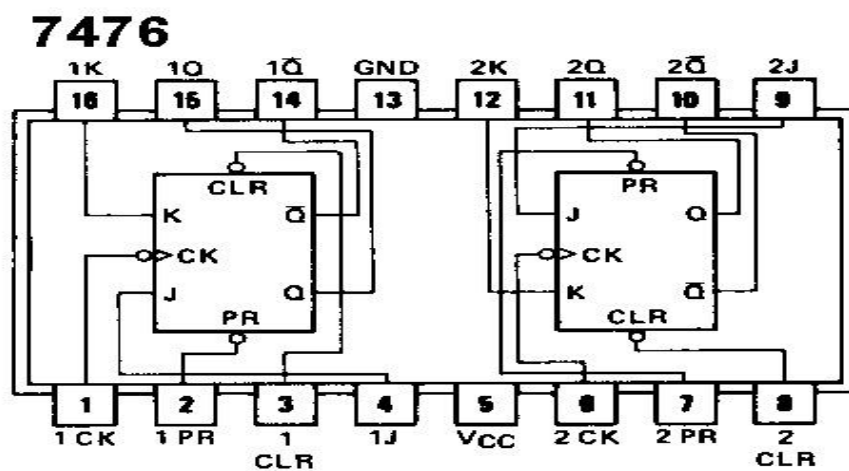

Figure 3.IC 7476
4. Apply logic inputs to IC 7476 (Figure 3), to convert it into D FF according to the observation table.